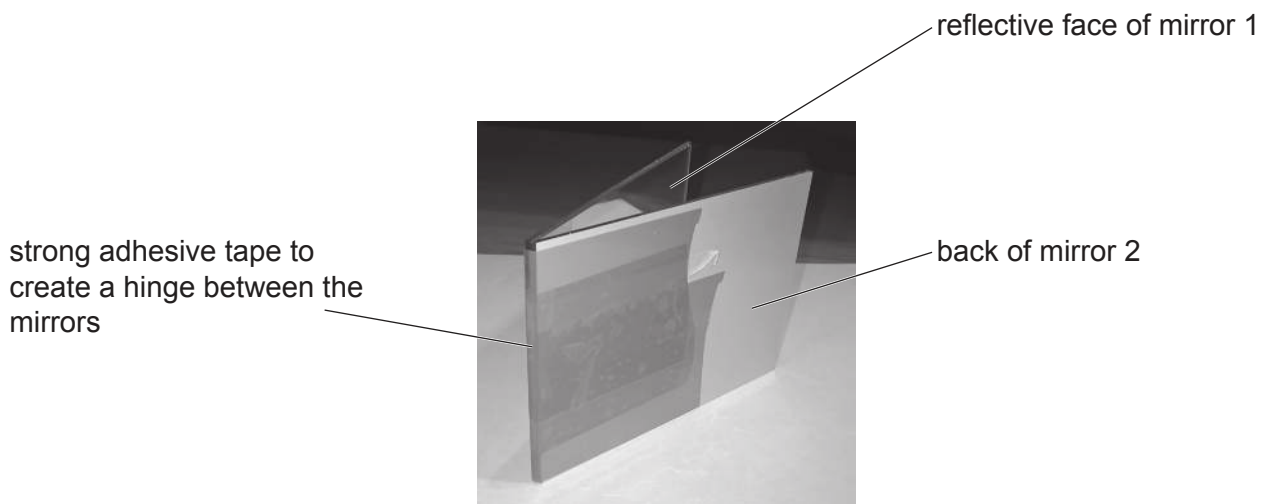

Fig. 1.1
1. Place the mirrors so that their reflecting surfaces are facing. Use strong adhesive tape across one edge to join them together as shown in Fig. 1.1. Using the tape as a hinge, candidates should be able to vary the angle between the mirrors.
- Place the mirrors on the card as shown in Fig. 1.1 with the small ball of modelling clay and the protractor to one side. If the paper has been marked, it should be replaced.